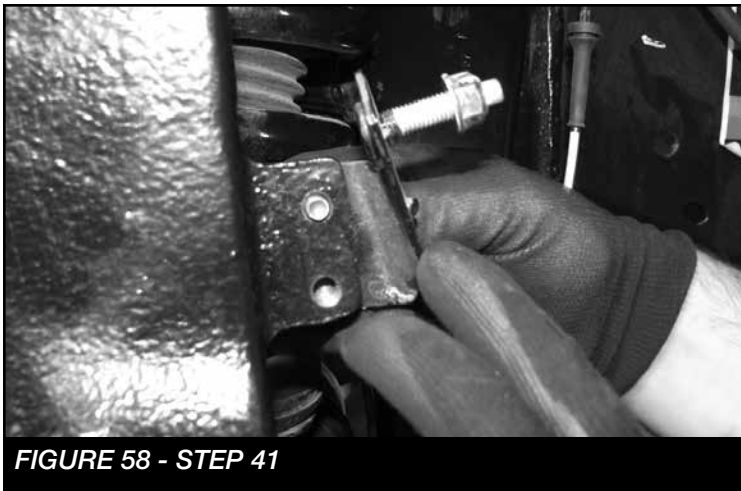

FIGURE 58 - STEP 41
41. Install the factory brake line bracket to the new knuckle using the factory hardware. **SEE FIGURE 58**